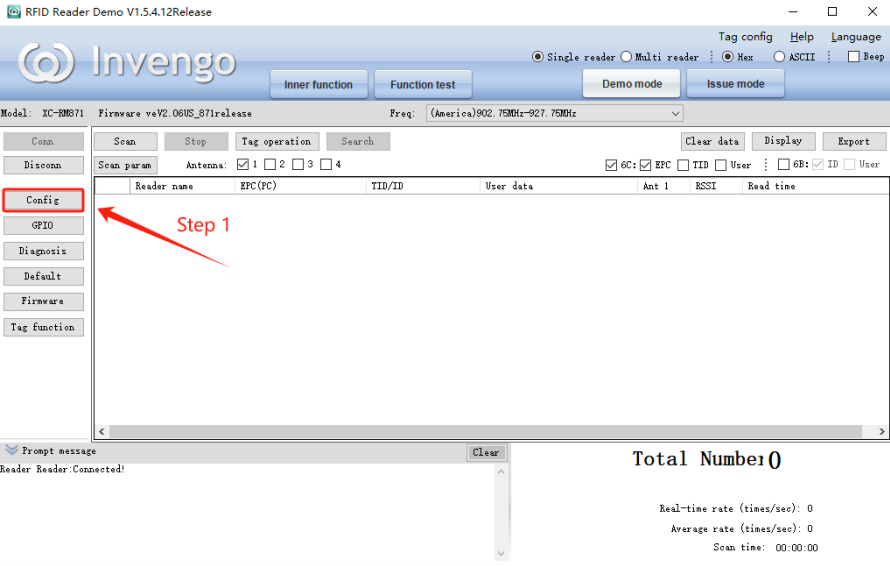

Figure 5-6 Power Setting Diagram 1
- 1) Click “Config” on the interface shown in Figure 5-6;